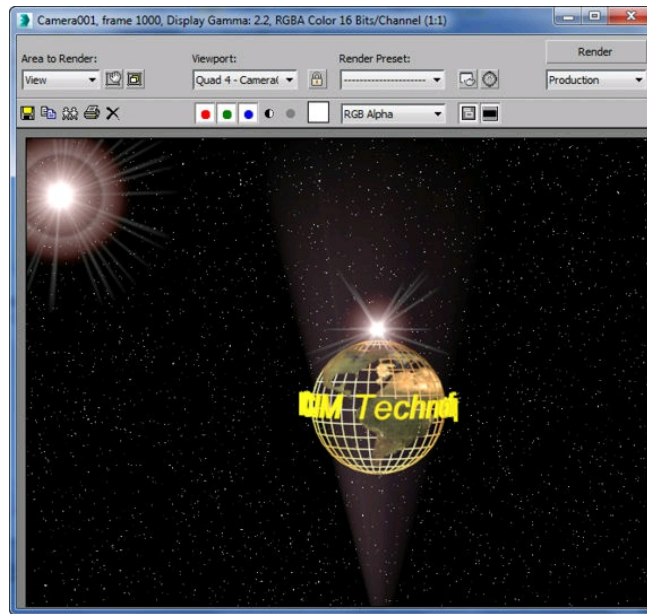

Figure 14-61 The scene displayed at rendering after setting the parameters in the **Far Attenuation** area
28. Render the Camera001 viewport; the scene is displayed, refer to Figure 14-61.